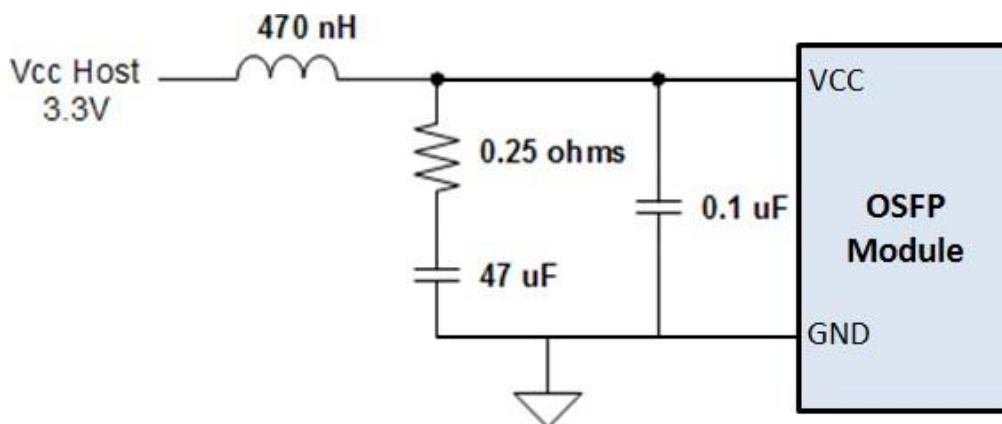

Figure 4. Recommended Power Supply Filter
5. Measured with conformance test signal for BER = 2.4x10⁻⁴. A compliant receiver shall have stressed receiver sensitivity (OMA_{outer}), each lane values below the mask of Figure 4, for SECQ values between 0.9 and 3.4 dB.